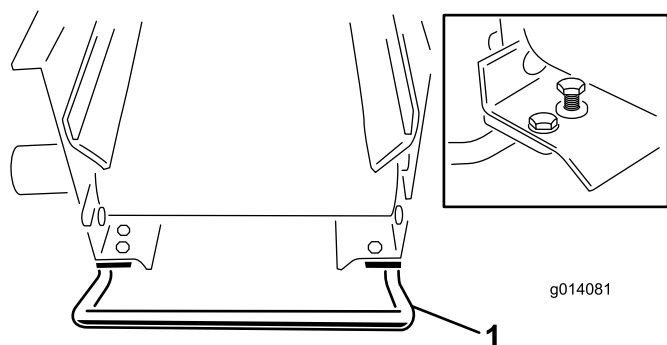

Figure 2
Attach the handles to the cross conveyor, below the side rails, using (4) 1/4 x 3/4 inch bolts and flange lock nuts (Figure 2).